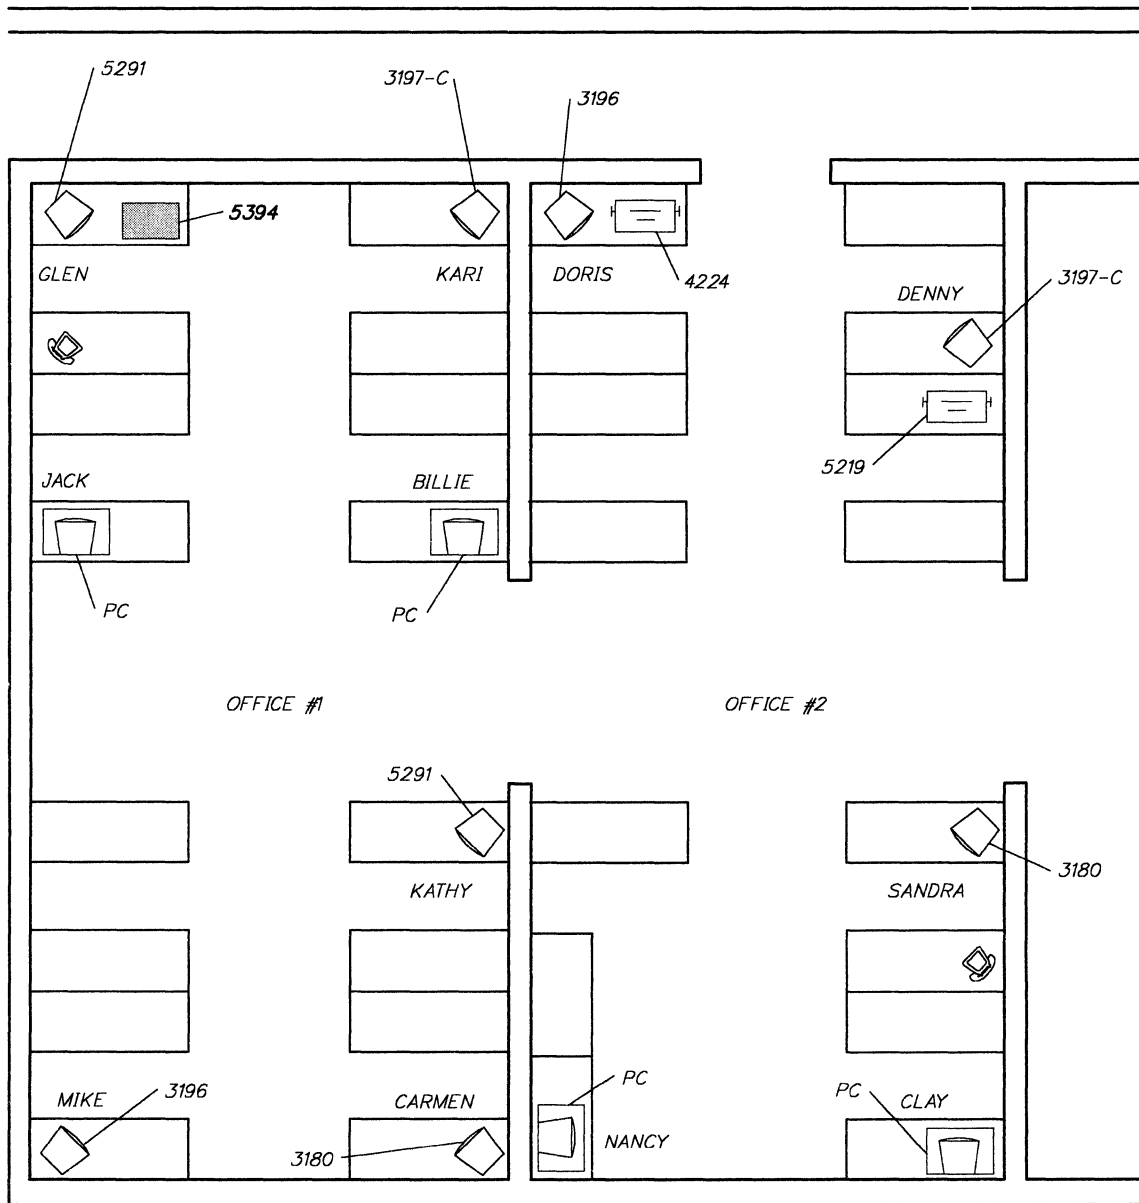

Figure 26. Device Locations
3. Add control units, display stations, and printers. Record the device type of each as shown in Figure 26 on page 41.